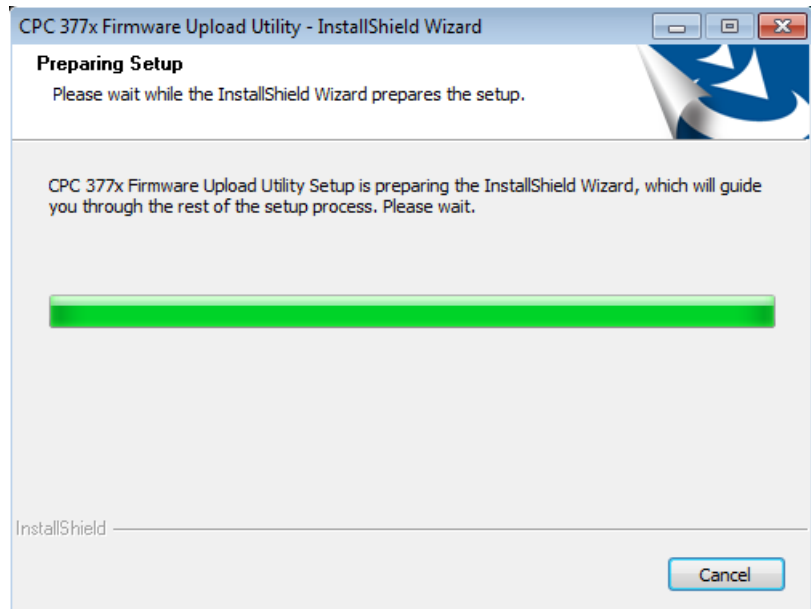

Figure 1
2. A “Preparing to Install...” screen will be displayed (Figure 1).